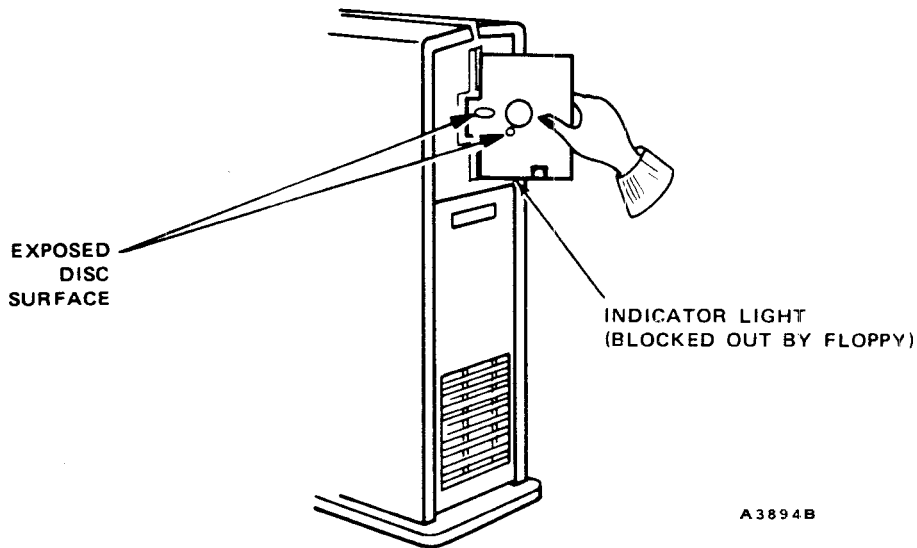

Figure 3-3. Loading the Floppy Diskette
- 3 Next, insert the diskette with the oblong cutout on the diskette going into the disc slot first, with the small rounded cutout facing down. See Figure 3-3.
- 4 Finally, close the latch over the diskette. The indicator light below the floppy disc slot lights when the floppy is loaded correctly. See Figure 3-3.